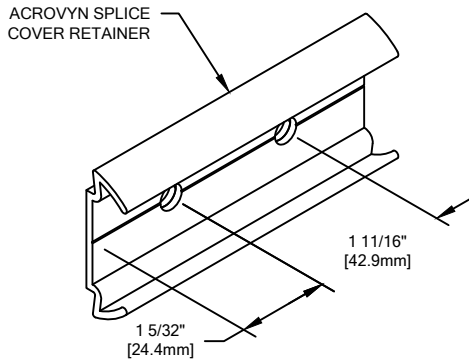

FIGURE 1.
4. DRILL TWO 9/32" PILOT HOLES THROUGH THE ACROVYN SPLICE COVER RETAINER, 1 5/32" [29.4mm] FROM THE END AND 1 11/16" [42.9mm] O.C. ALONG THE DIE MARK (SEE FIGURE 1). THE 3" SPLICE CLIP MAY ALSO BE USED AS A TEMPLATE.